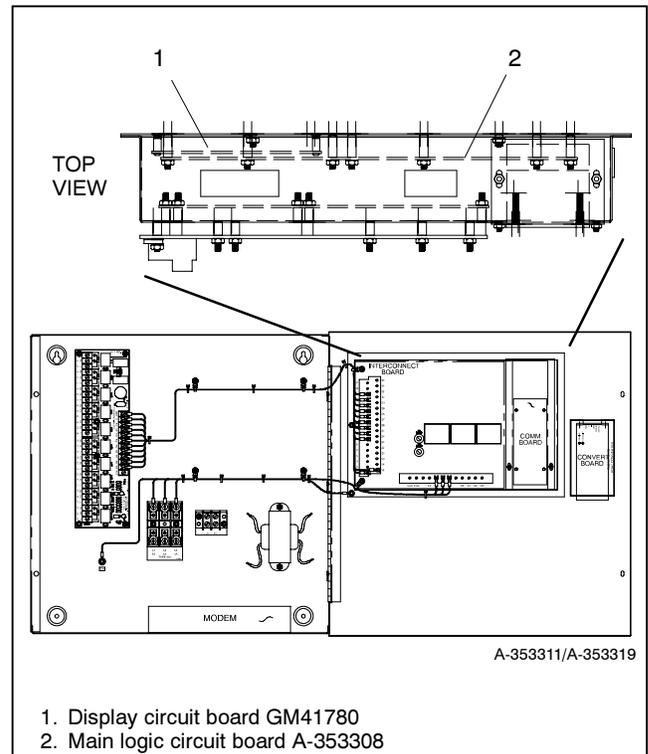

Figure 7 Power Monitor Inside Components
9.2 Open the power monitor front panel. See Figure 7.
- 12.1 Locate the main logic circuit board in the power monitor enclosure. See Figure 7.